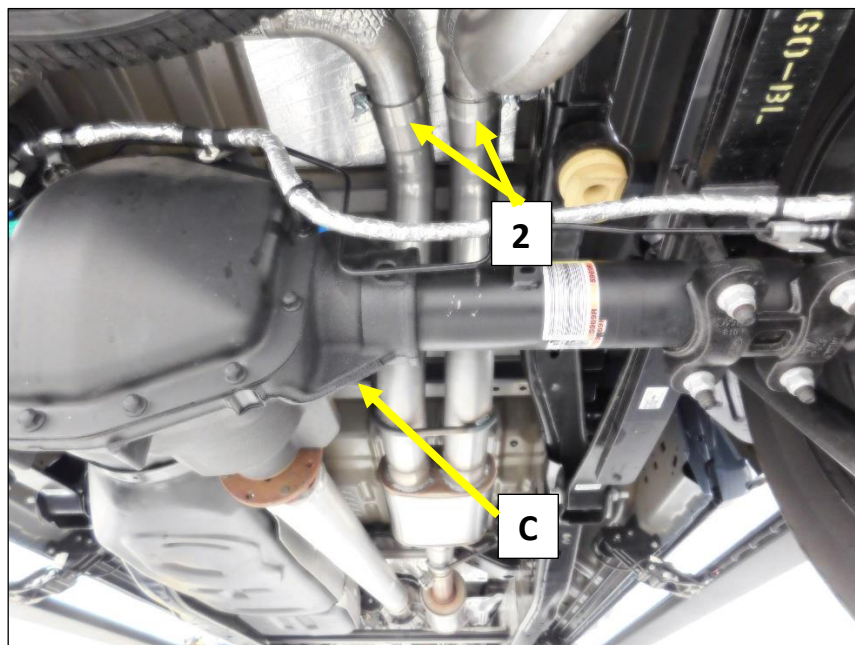

Figure 7
3. Re-install the muffler hanger assembly (C) on to the rear muffler hanger rod. Install the isolator assembly to the crossmember. **NOTE:** Be sure the tab of the isolator body is in the slot. **Fig.7**
4. Install a 3.0" band clamp (2) on each of the two muffler outlet pipes with the bolts to the outside and the nuts facing down. **Fig.7**